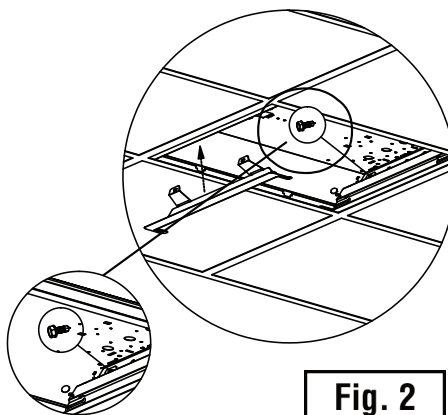

Fig. 2
2. Install LED panel end brackets to each end of the fixture by gently lifting recessed fixture and placing LED panel end brackets between the fixture and T-grid. Secure the LED panel brackets to the fixture using the provided #8x1/2" self-drilling screws. There are two hole sets to allow for clearing fixture features that may obstruct the screws. Locate the wire terminals on the LED board on the end of the light engine panel that has the wire. (Fig.2)